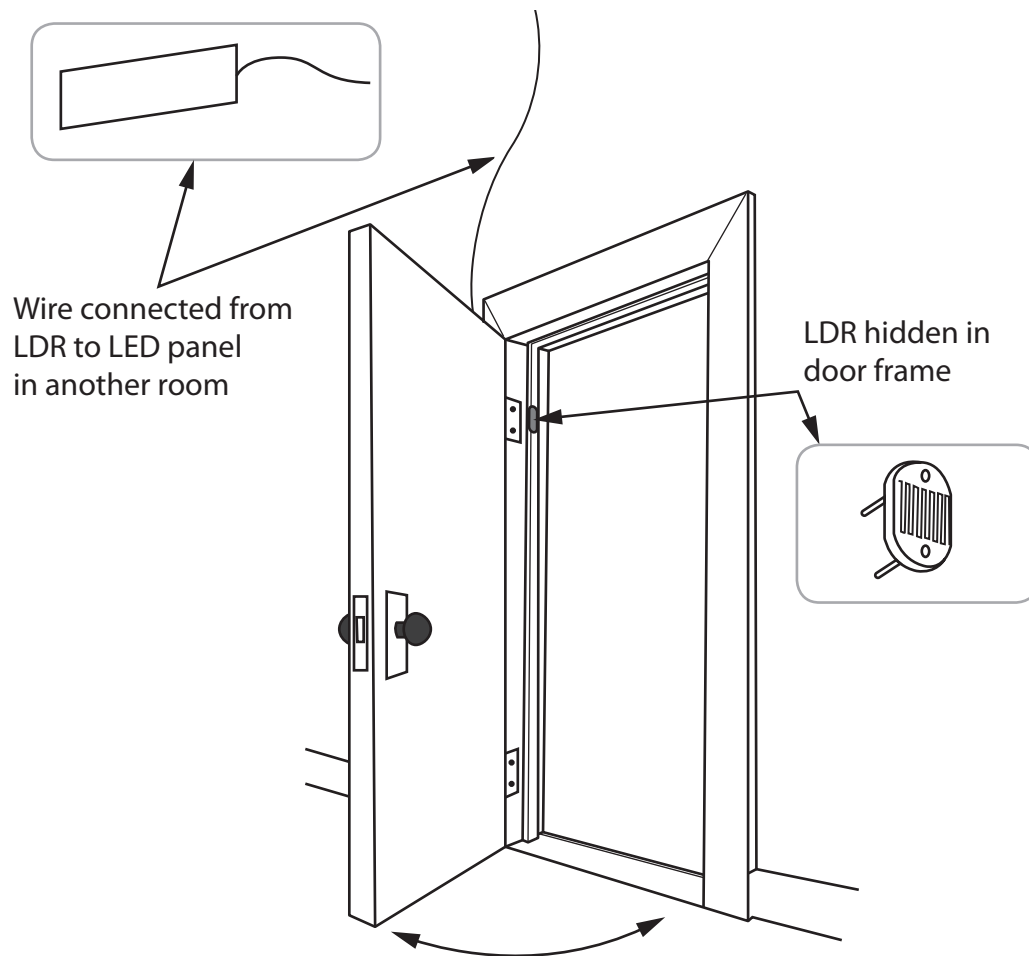

Figure 10
- 5 Figure 10 shows a design solution for a door alarm using a light-dependant resistor (LDR) sensor. When the LDR senses light, a light-emitting diode (LED) panel flashes to alert the owner that the door has been opened.